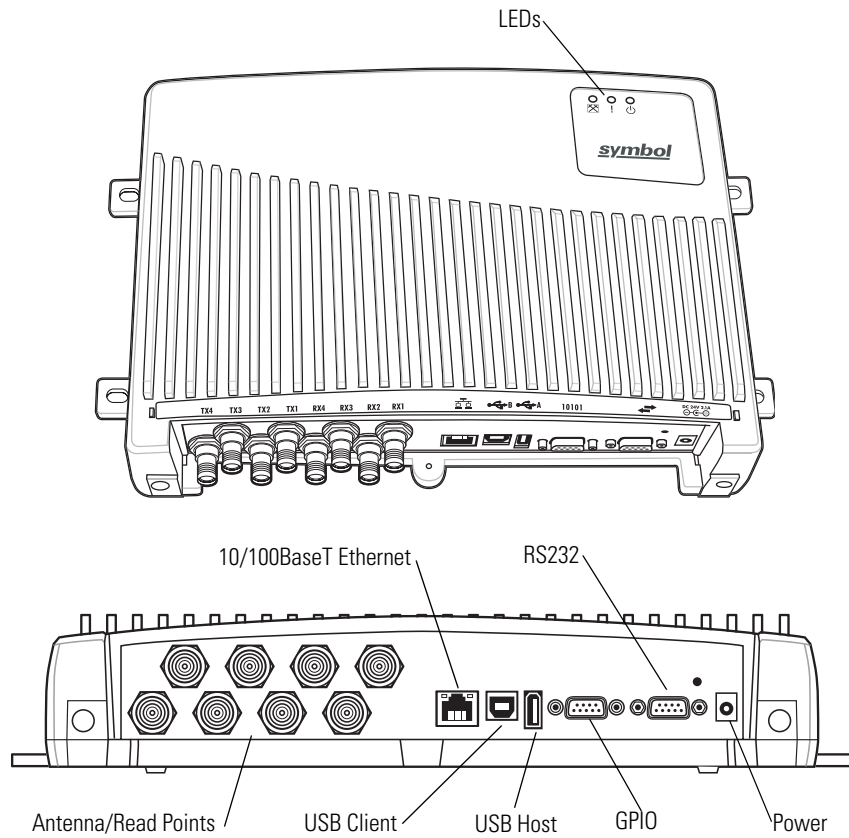

Figure 2-1. XR400 Parts
1. Connect the RJ45 Ethernet cable to the wired Ethernet port on the XR400. See Figure 2-1 on page 2-3. Ensure the Ethernet cable is terminated according to Table A-2 on page A-5.
1. Connect an DB9 serial cable to the XR400's RS232 port. See Figure 2-1 on page 2-3. Ensure the cable is terminated according to Table A-3 on page A-5.